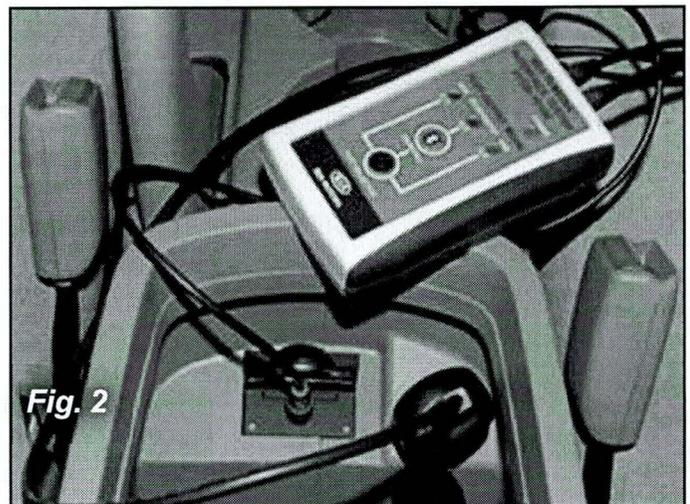

Fig. 2
3. For vehicles without a USB port, a USB power adapter is supplied to power the MIT. In this case, plug the USB into the power adapter, which is then plugged into the power outlet (see Fig 2 below).